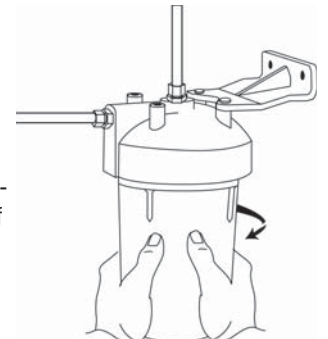

Figure 10
10. Remove housing by grasping with both hands and turning to the left. A wrench may be used on the square lug at the bottom of the housing if necessary. (Figure 10)